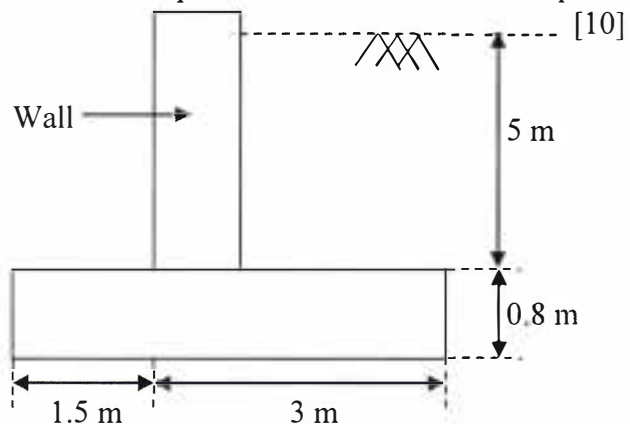

Figure 4: Retaining wall of an artificial lake
- b. A reinforced concrete cantilever retaining wall of an artificial lake as shown in **Figure 4** is subjected to lateral load due to soil and pore water pressure. Design the wall (only) and check overturning of the whole retaining wall. The density of soil and water is 1800 kg/m^3 and 1000 kg/m^3 respectively, coefficient of active soil pressure is 0.33. Assume required data to design. [10]